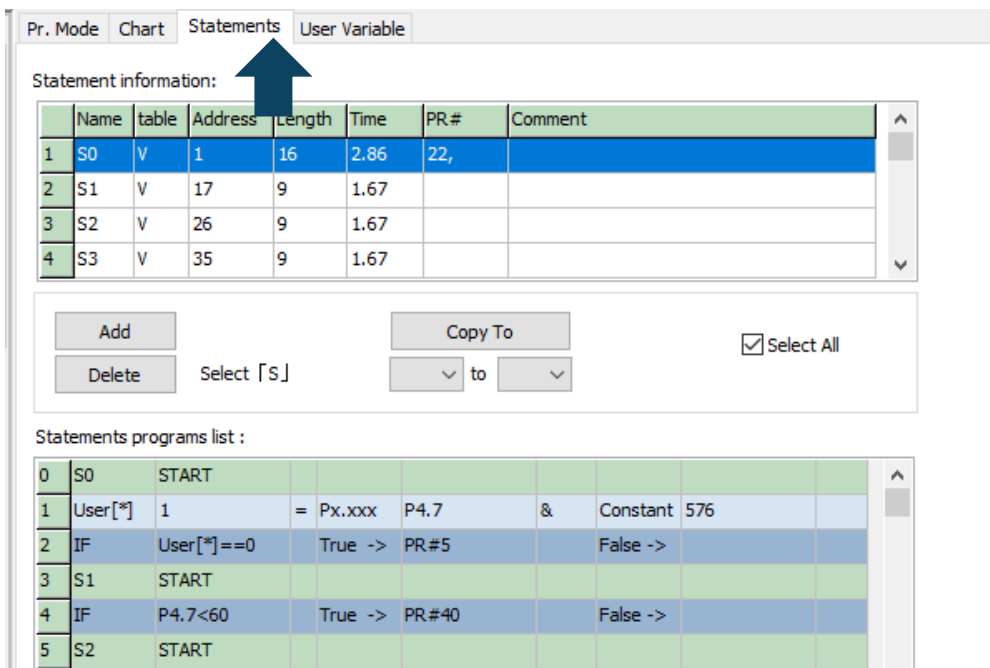

Figure 7.1.3.7.2 Statements tab in ASDA-Soft
- Statement section: this section includes statements and memory capacity. Statements save the data from the expression and procedure sections. Data in the expression and procedure sections of the same statement always remain identical and can be shared by multiple PR paths. If data in those two sections are different, then the data is saved to another statement. The time required to execute the statement is shown in the Spend time field. Total Capacity shows the servo drive's memory capacity; basic operations cannot be performed if there is no memory space available. The Statements tab is shown in Figure 7.1.3.7.2. The upper section displays all the statements and the lower section displays the operations and settings in each statement.